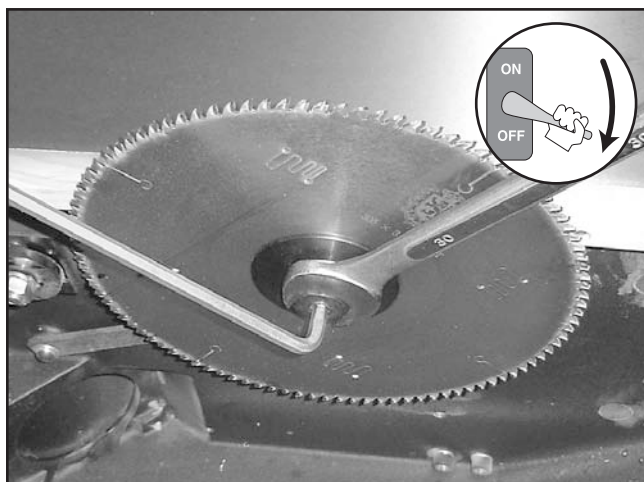

Figure 34. Installing the main blade.
20. Slide the blade over the arbor with the teeth facing the right side of the saw, and re-install the arbor flange and the arbor nut. The main blade arbor nut has left-hand threads and tightens counterclockwise. Hold the arbor with one arbor wrench and tighten the nut with the other arbor wrench as shown in **Figure 34**.